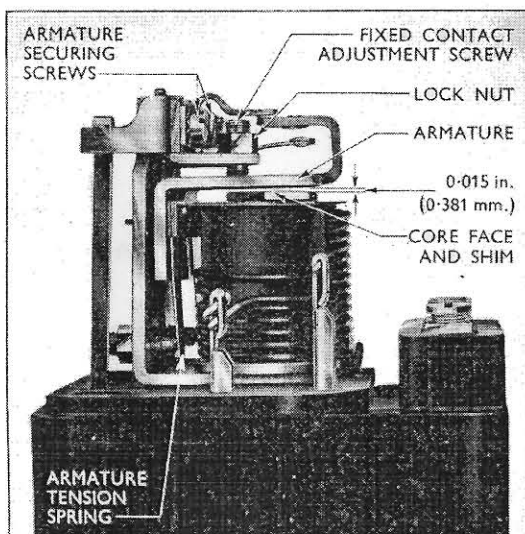

Fig. 7
2. Remove the two armature screws and lock-nuts (refer to Fig. 7) and detach the metal strip.
5. Replace the points in the reverse sequence to that described above in paragraphs (1) to (3).
2. Slacken the fixed contact screw locknut and unscrew the contact screw until it is clear of the armature moving contact. (Refer to Fig. 7.)